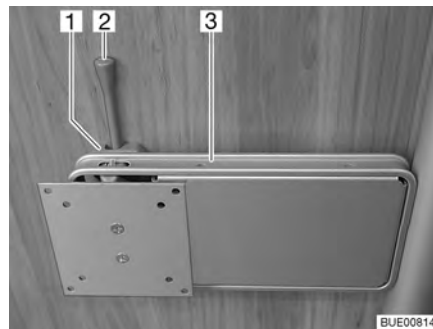

Fig. 50 Holder on the column
- Push the release lever (Fig. 50,2) to the side and turn the holder (Fig. 50,3) with the flat screen to the desired position.
- Turn flat screen back until the holder (Fig. 50,3) engages in the lock (Fig. 50,1).